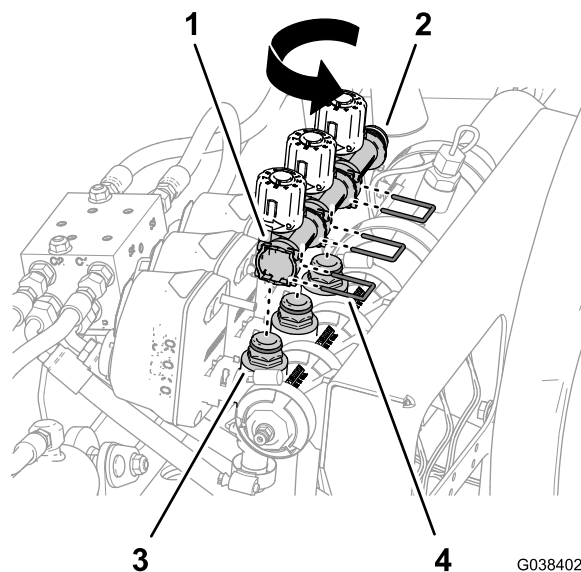

Figure 85
- Rotate the bypass manifold 180° and seat it onto the 3 quick-connect fittings of the spray valve manifold (Figure 85).
- Secure the bypass manifold to the quick-connect fittings of the spray valve manifold (Figure 85) with the 3 retainers that you removed in step 3.